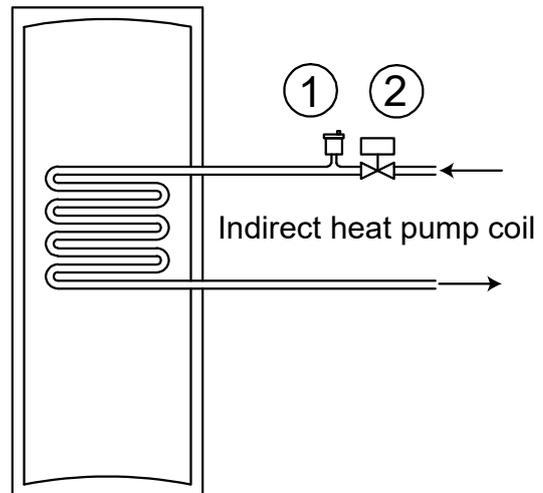

Figure 3-1: Primary circuit connections
Refer to item 2 in Figure 3-1. The 2-port valve should be wired in accordance with Figure 5-2 for a Grant Aeronas Heat Pump to comply with current legislation. For other makes of heat pump please check with the heat pump manufacturer for connection details.
Table 3-1: Key to Figure 3-1